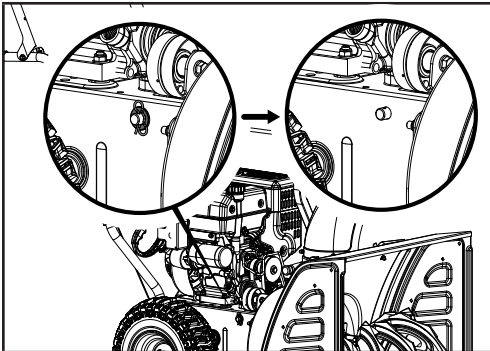
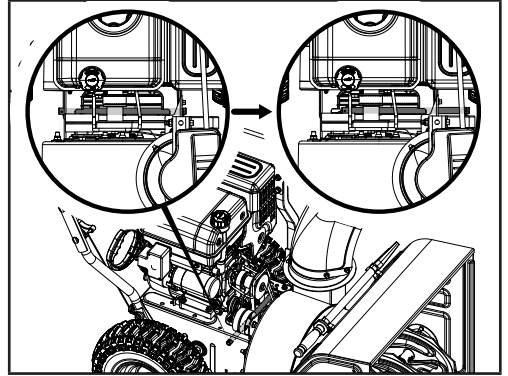

Figure 24A
Figure 24B
2. Remove clip and washer (Fig. 24A), pull support rod ½ way out from other side of snowblower (Fig. 24B).